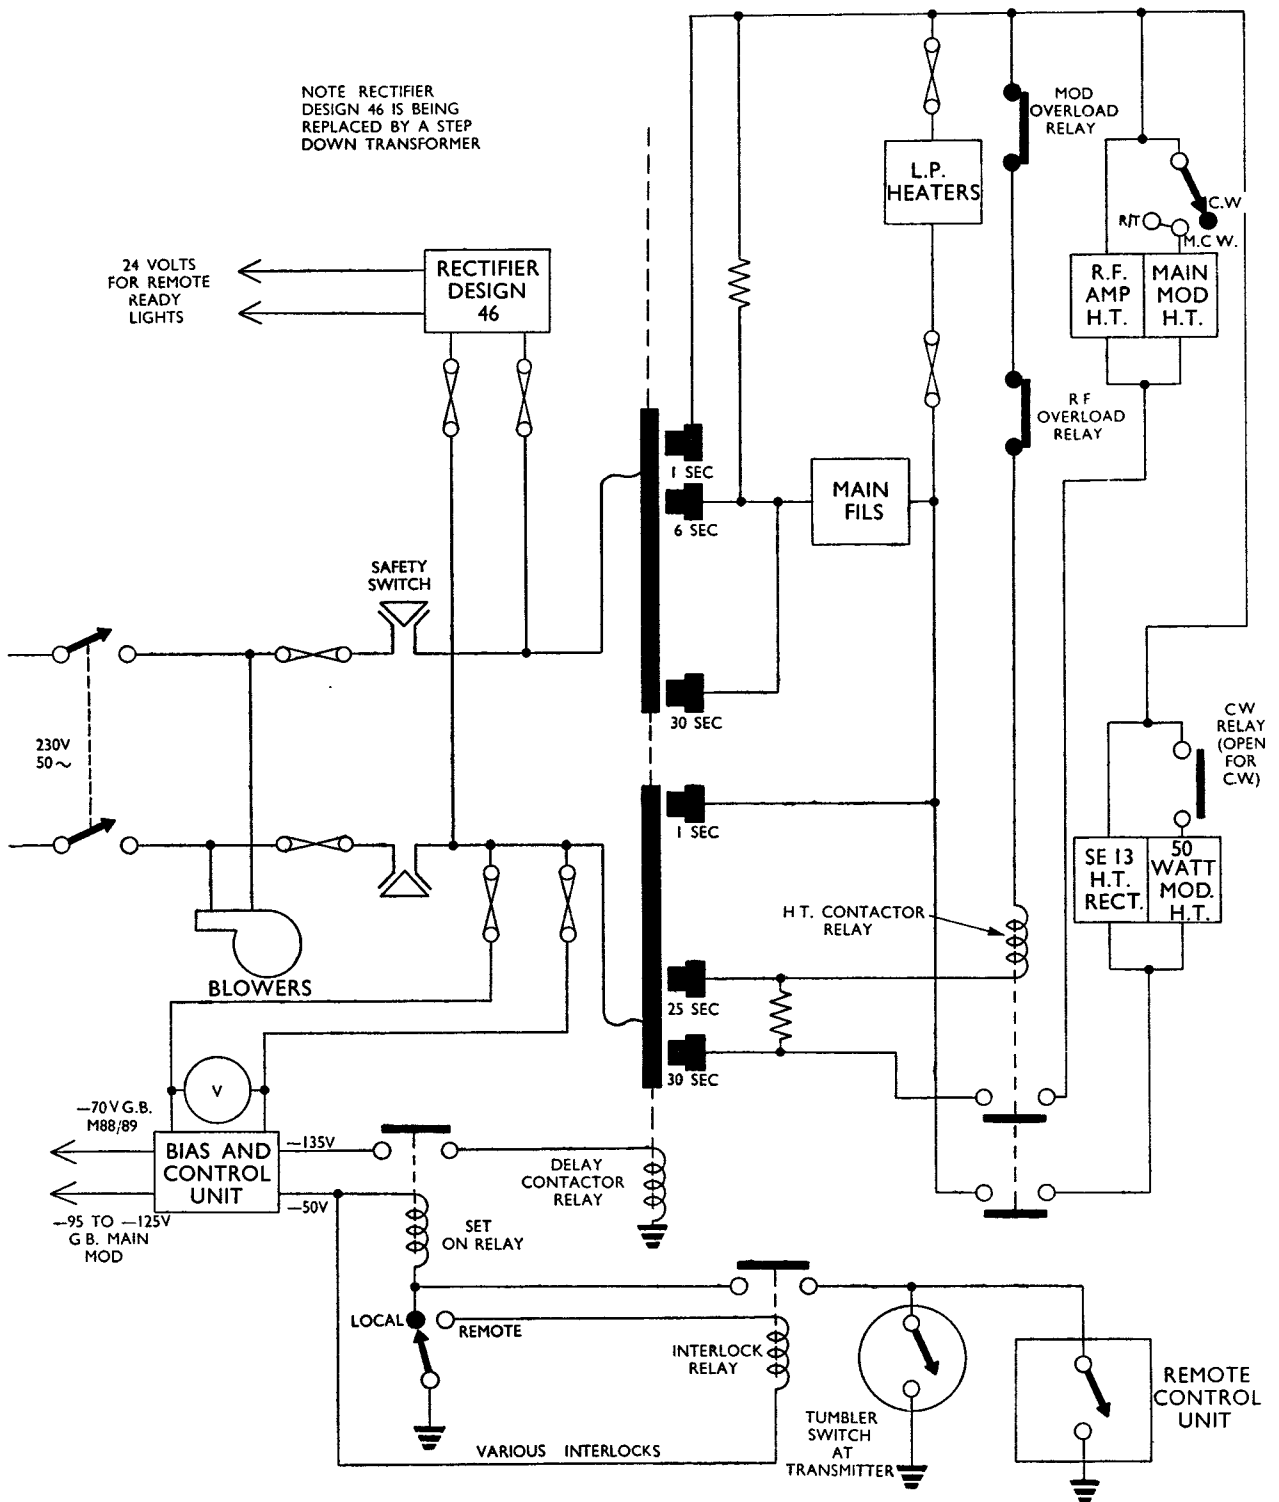

FIG. 6. OPERATION OF DELAY CONTRACTOR
47. Diagram Fig. 6 (overleaf) is applicable to a single-phase supply.